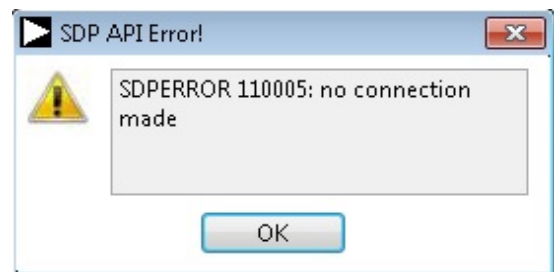

Figure 16. **SDP-H1** Board Not Connected to the USB Port Error
- If **Cancel** is clicked, a message appears as shown in Figure 16.